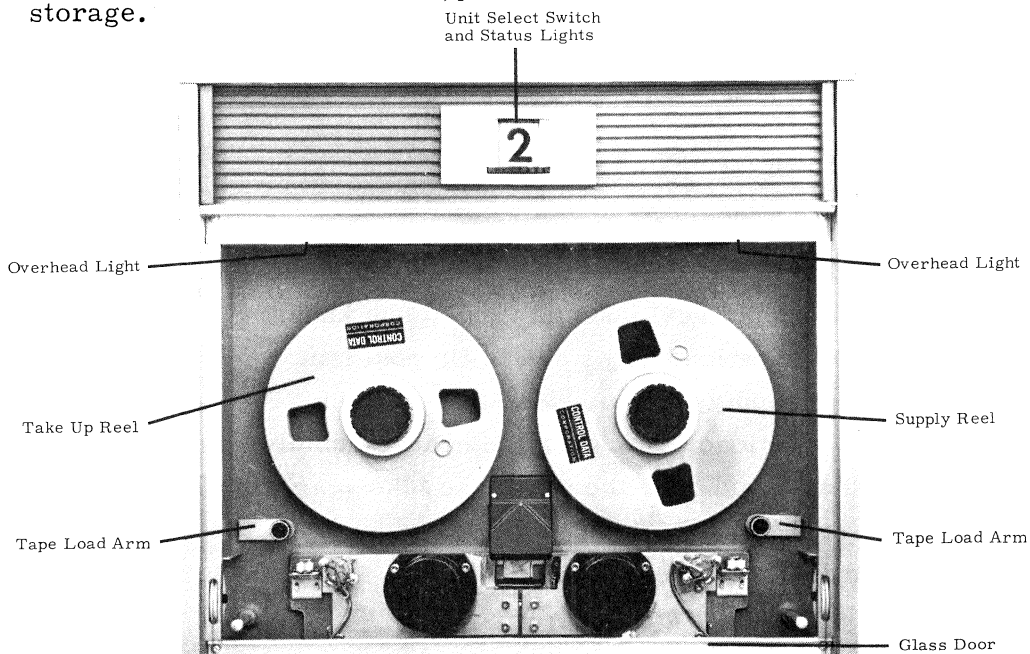

Figure 2-2. Tape Load and Unload Mechanics
- 1) Slide front door down to lowest position (figure 2-2).